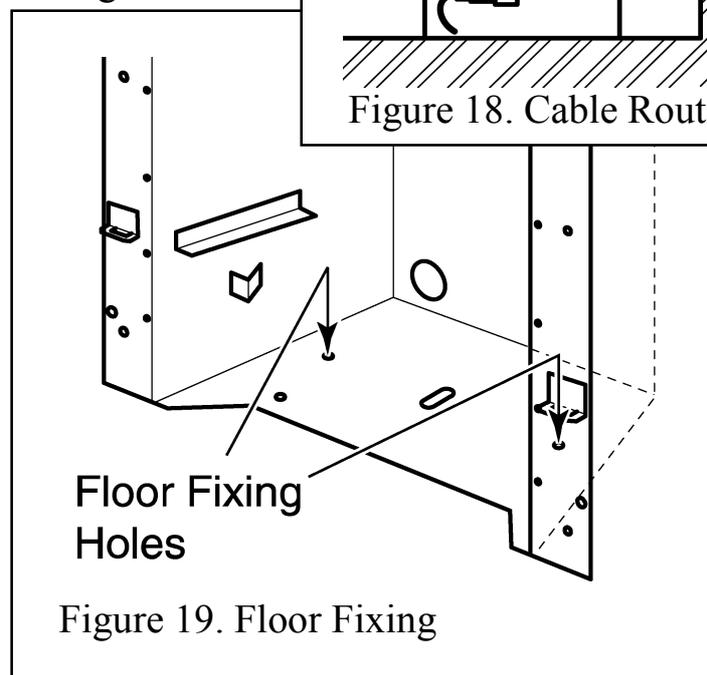

Figure 19. Floor Fixing
8. Drill a hole into the fireplace floor through each of the two holes in the base of the hotbox using a no.12 masonry drill. See figure 19.